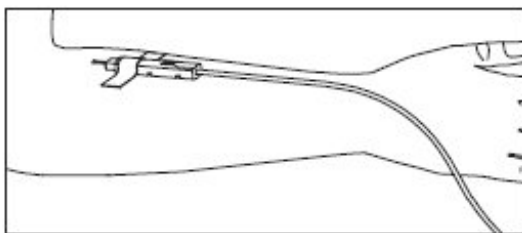

Figure 2
8. When good blood flow is established, slide the DONORCARE needle guard over the needle hub into the engaged position. Leave the front third of the needle hub exposed for access. Stabilize the front of the needle guard to arm with tape. (see Figure 2)